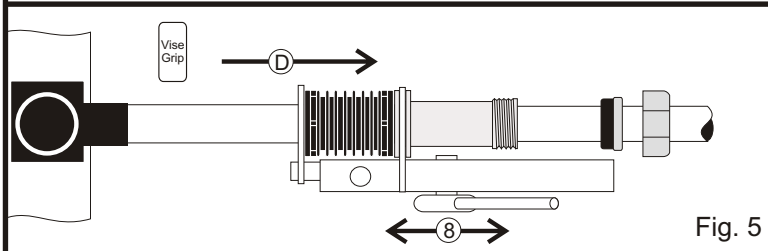

Fig. 5
8. Remove vise grip from PE pipe and advance the completion sleeve over the PE pipe and spigot (note the direction of sleeve advancement "D" in Fig. 5). Stop sleeve advancement when the sleeve is fully inserted over the spigot.